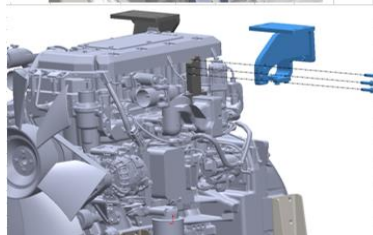

Figure 6
6. Loosely assemble the ATD mount bracket (5) near intake fan side as shown in the figure 6 using M10X25 bolts (12).